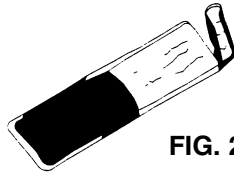

FIG. 2
6. Squeeze resin to one end of bag, and cut off other end. (FIG. 2)